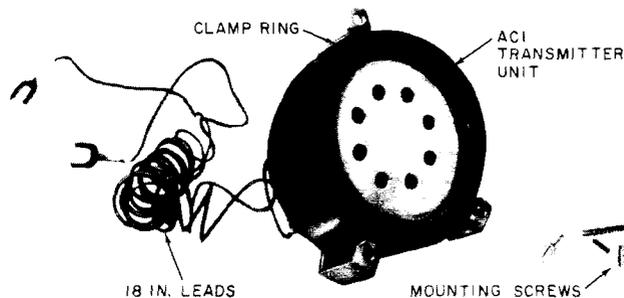

Fig. 8—662B Transmitter
2.03 This amplifier is intended for use with the 662B transmitter (see Fig. 8) and 613B or C key to provide 3A speakerphone capabilities to custom installations. Refer to Section 501-420-101 for information on 613B and C key.
2.25 The *662B* transmitter (Fig. 8) consists of an ACI transmitter unit, a clamp ring for mounting the transmitter to a panel, and three mounting screws. The transmitter is designed for panel mounting and intended for use with the 3A speakerphone system. Two spade-tipped leads, 18 inches long, provide connections to the associated circuit components.